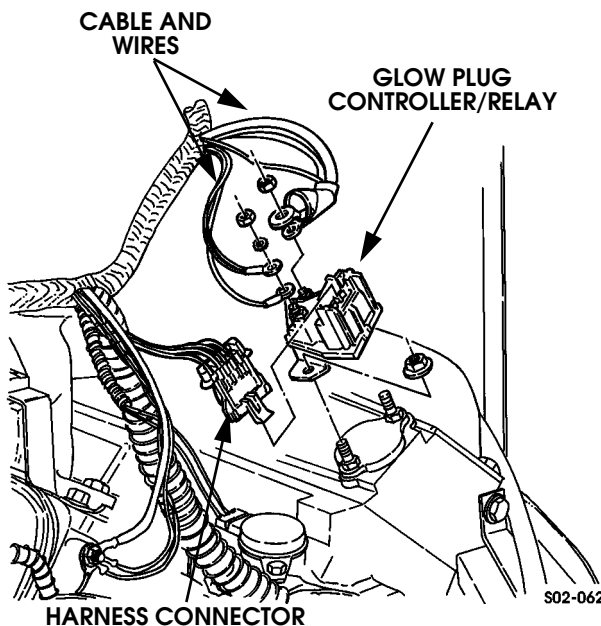

Figure 2-77: Glow Plug Relay Connections
18. Connect glow plug relay cable and wires (Figure 2-77).
28. Disconnect glow plug relay wires and cables (Figure 2-77).